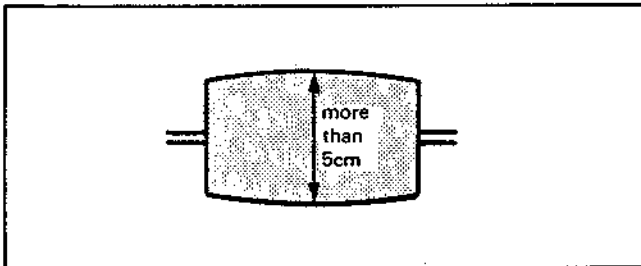

Fig. 4-4 Center Click Waveform
- 7) Return the tracking control knob to center click and confirm that the RF output waveform is more than 5cm. (Fig. 4-4) When it is less than 5cm, refer to the section on CTL position adjustment and perform coarse adjustment.